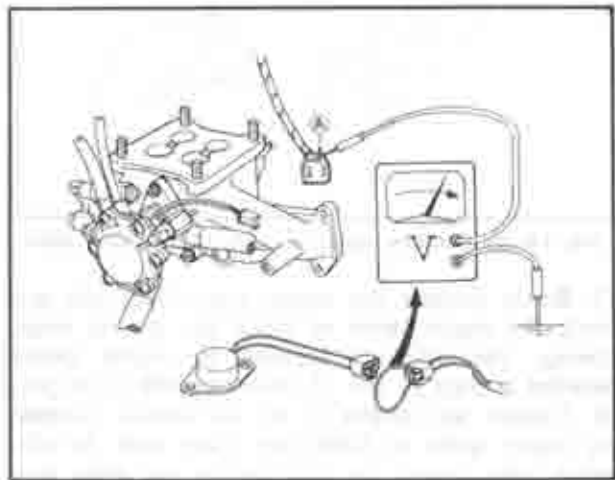

Fig. 1A-29
4. Disconnect the heat hazard sensor coupler and connect a jumper wire to both terminals in the coupler (from control unit) as shown in Fig. 1A-29.